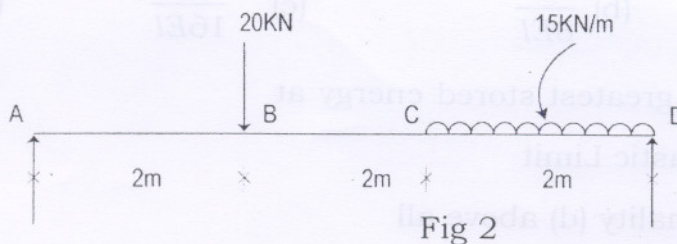

Fig 2
15. Find the maximum deflection and the maximum slope for the beam loaded as shown in fig.2 take  $EI = 12 \times 10^9 \text{ kN-mm}^2$ . 10